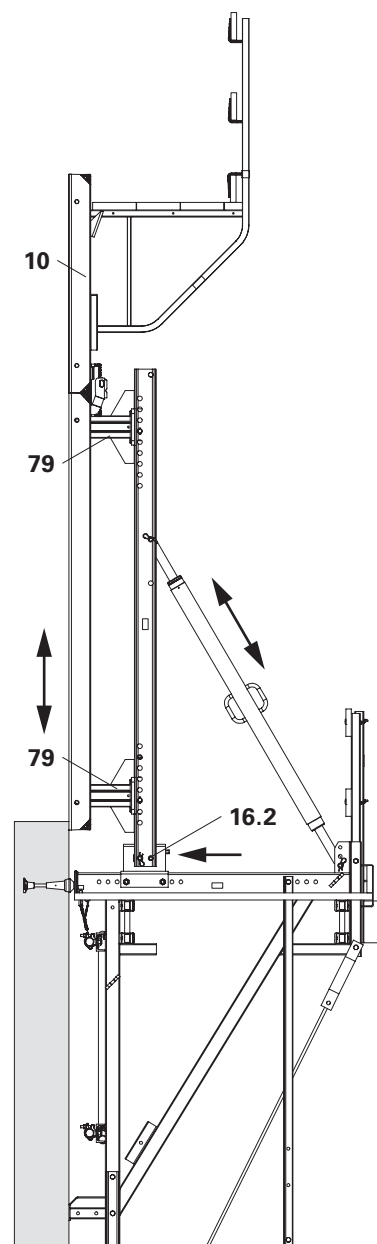

Fig. B2.20
6. Insert formwork (78) with Lifting Hook MAXIMO 1.5 t (80) into the Connectors TRIO-CB (79) and secure using bail  $\varnothing 25$  (79.1).
9. Align formwork, see B3. (Fig. B2.20)